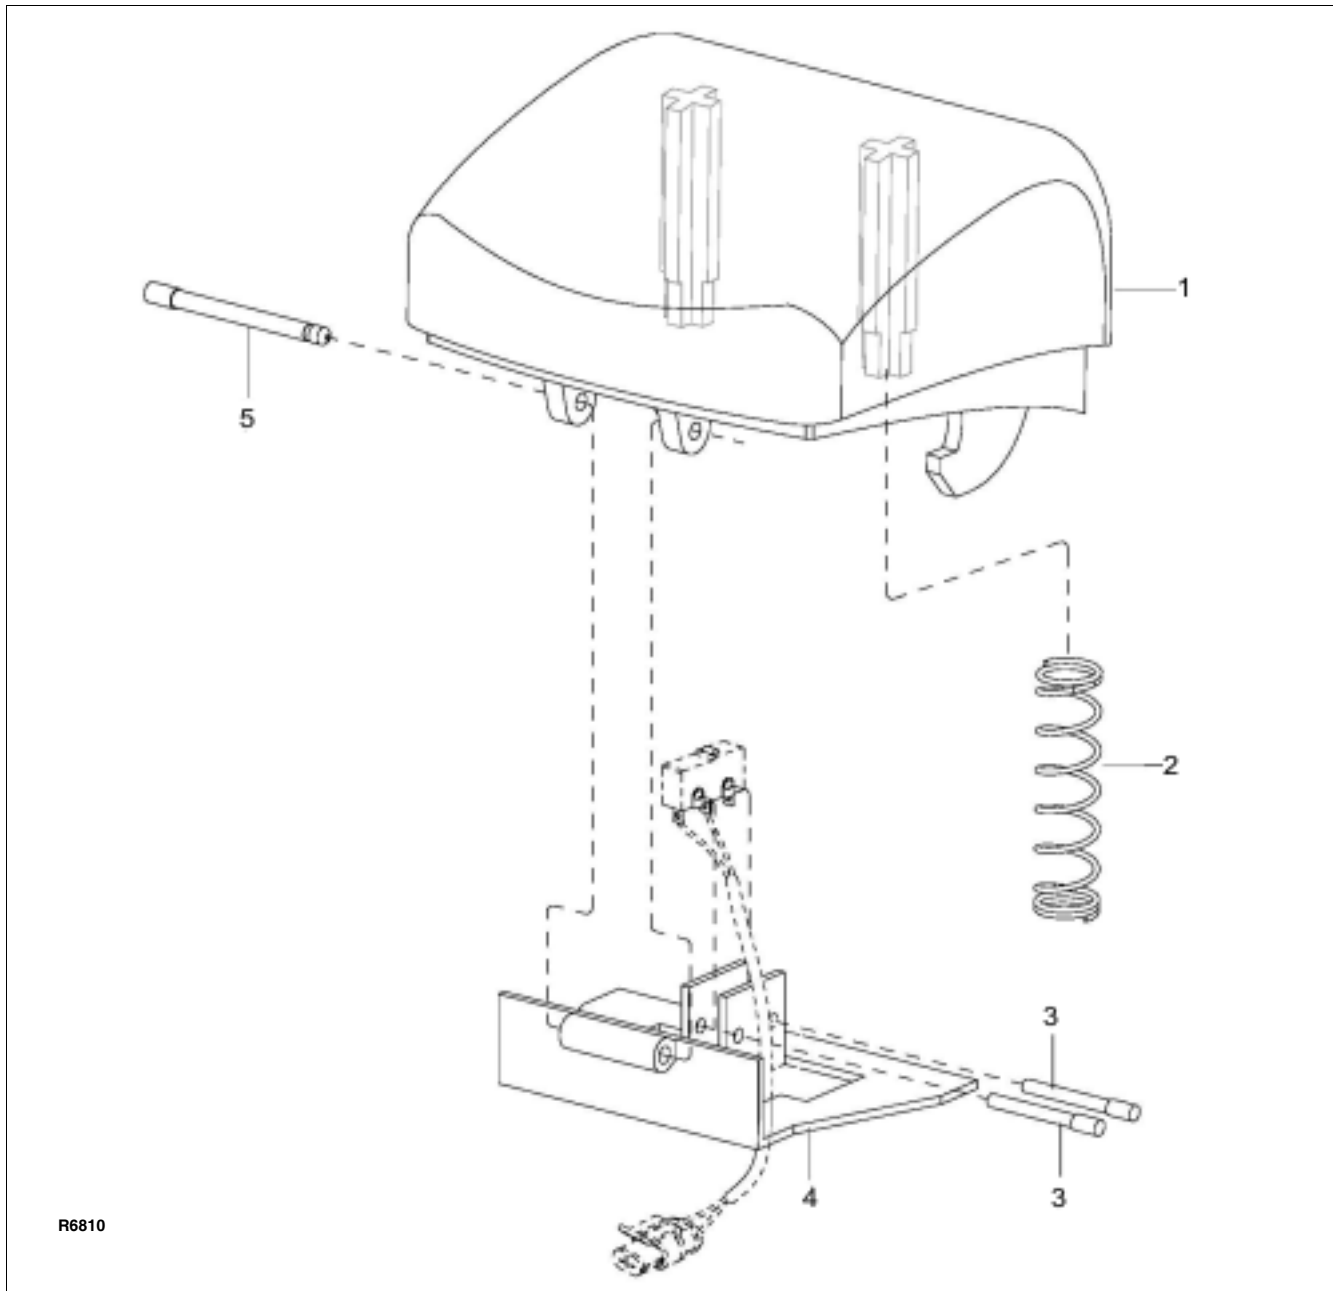

Figure 5-3 Emergency Reverse Switch Assembly
3. Remove screw (1), lock washer (6) and flat washer (7).
4. Remove screw (16), lock washer (6) and flat washer (7) and remove switch assembly (24) from bracket (20).
5. Remove pin (5, Figure 5-3), bracket (4), and spring (2) from button (1).
6. Remove two pins (3) and switch assembly (25, Figure 5-1) from bracket (4, Figure 5-3).
7. Position the new switch assembly (25, Figure 5-1) in bracket (4, Figure 5-3) and secure with two pins (3).
8. Position bracket (4) in button (1) and install pin (5).